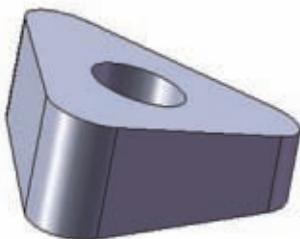

Figure 5-7 This part has no parallel surfaces, which makes the part difficult to hold for machining. When possible, design parts with parallel surfaces.
13. If possible, try to design parts with parallel surfaces somewhere. (see Figs. 5-7 and 5-8)
Parallel surfaces are used by machinists to hold parts. If no such surfaces exist, then the part becomes difficult to make. Figure 5-7 shows a seemingly simple part that had me puzzled. There was no easy way to hold the part for machining.